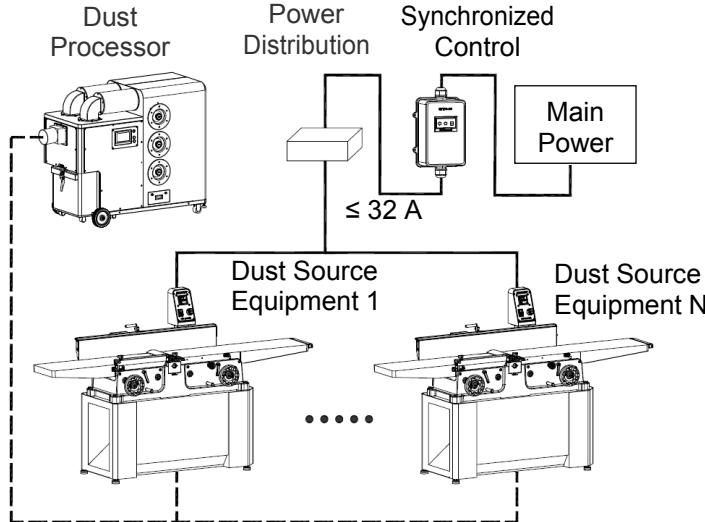

Fig. 7
**Installation Mode A:** one dust processor + one synchronized control + multiple dust source equipment, as shown in Fig. 7;
1) Connect the synchronized control to the system, as shown in Fig. 7.